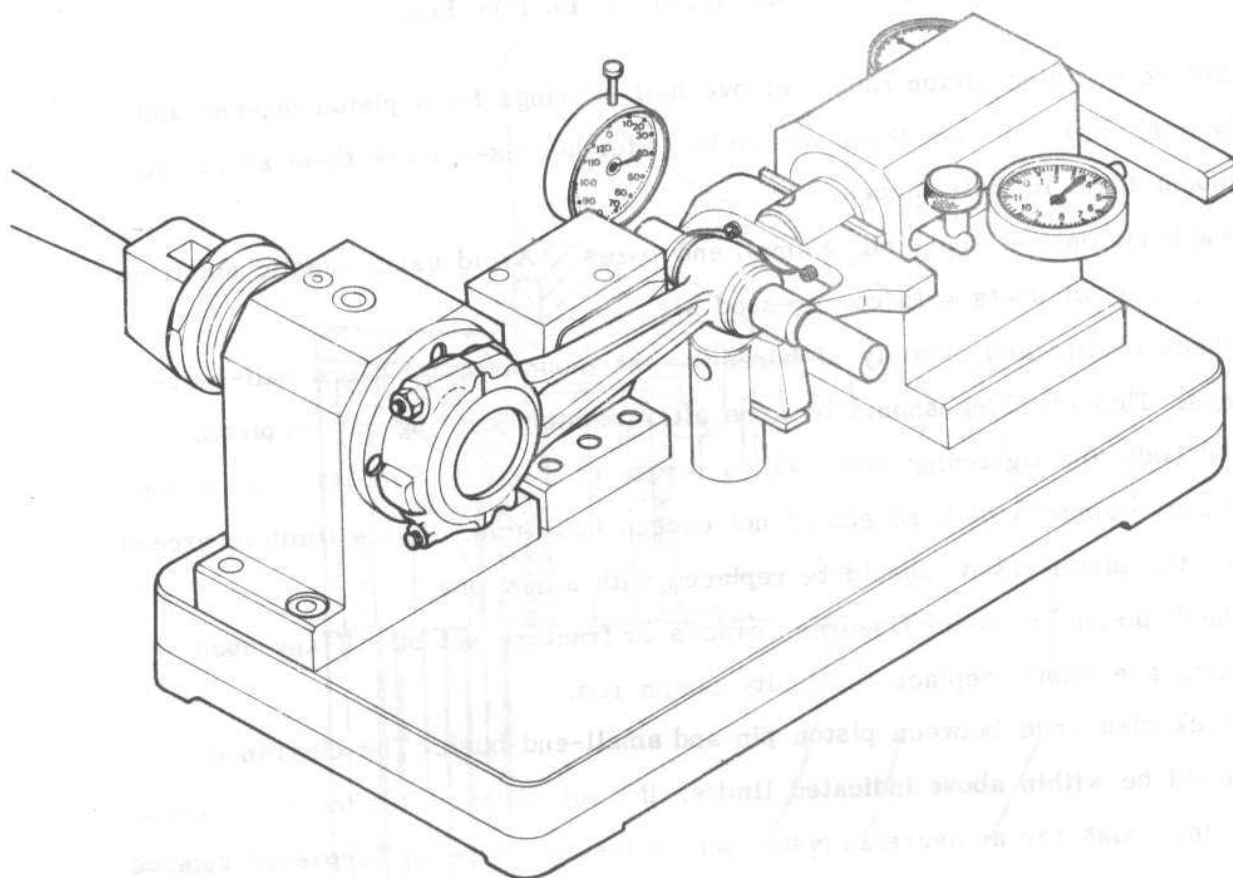

Fig. 4.64. CHECKING TWIST, FLEXURE AND LENGTH OF PISTON ROD BY MEANS OF V-6 CHECKER.
- Check by means of V 6 checker if axes of small & big-end bores are coplanar and parallel (see Fig. 4.64). If deviation caused by twist or flexure exceeds the priorly indicated limits, the piston rod should be straightened, or, if not possible, replaced.
### b) CLEANING & CHECKING PISTONS (Fig. 4.64).